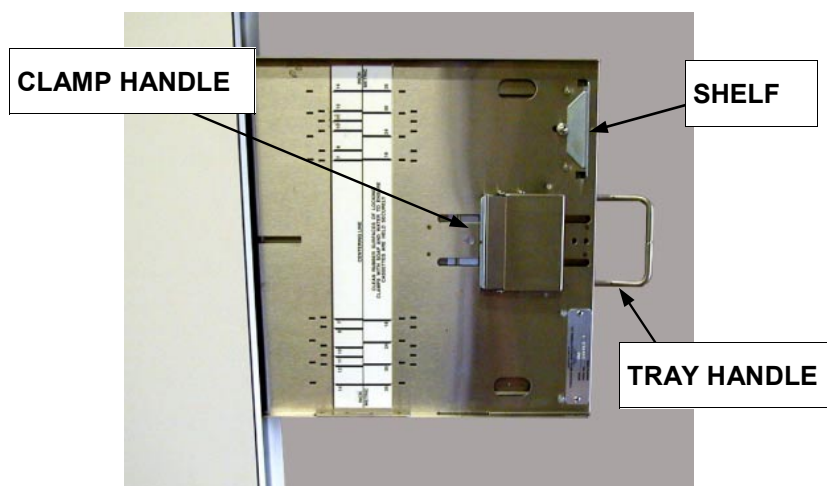

Figure 10. Poersch Cassette Film Tray
1. Pull cassette tray from Receptor Cabinet using tray handle (see Figure 10).